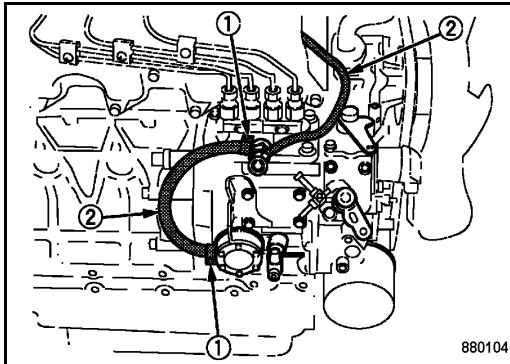

Fig. 132
- Check the condition and tight fit of all fuel lines (2) (Fig. 132) and hose clamps (1).